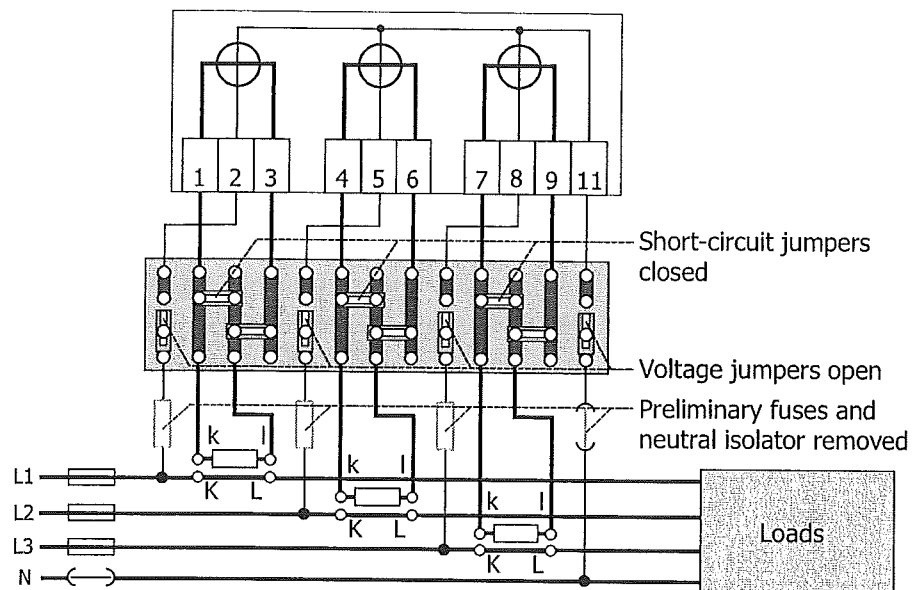

Fig. 4.8 Test terminal block status before installing the meter
4. Check that the connecting wires are not live using a phase tester or universal measuring instrument. If not, check the condition of the test terminals again according to Fig. 4.8. Remove the relevant pre-fuses if necessary and ensure that they cannot be re-inserted by anyone unnoticed before completing the installation.